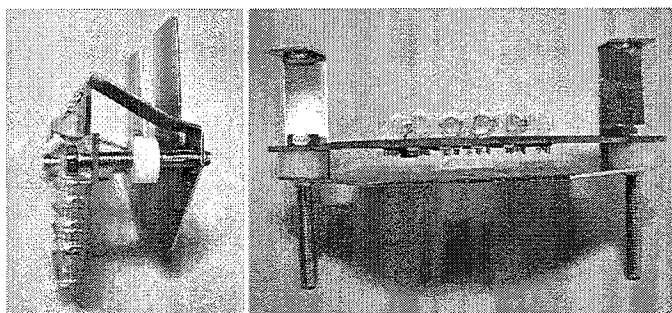

Figure 5
- Using both the 10-32 x $1\frac{1}{2}$ " Hex Screws and $\frac{1}{4}$ " Nylon Spacers, pass them through the LED Board in the order shown in Figure 5 (left). Using a $\frac{5}{16}$ " {8 mm} wrench, start the threads of the screws into the reflector plate. Once both screws have been started, tighten them firmly against the LED Board and then bend the mounting tabs as close as possible to their original positions as in Figure 5 (left).